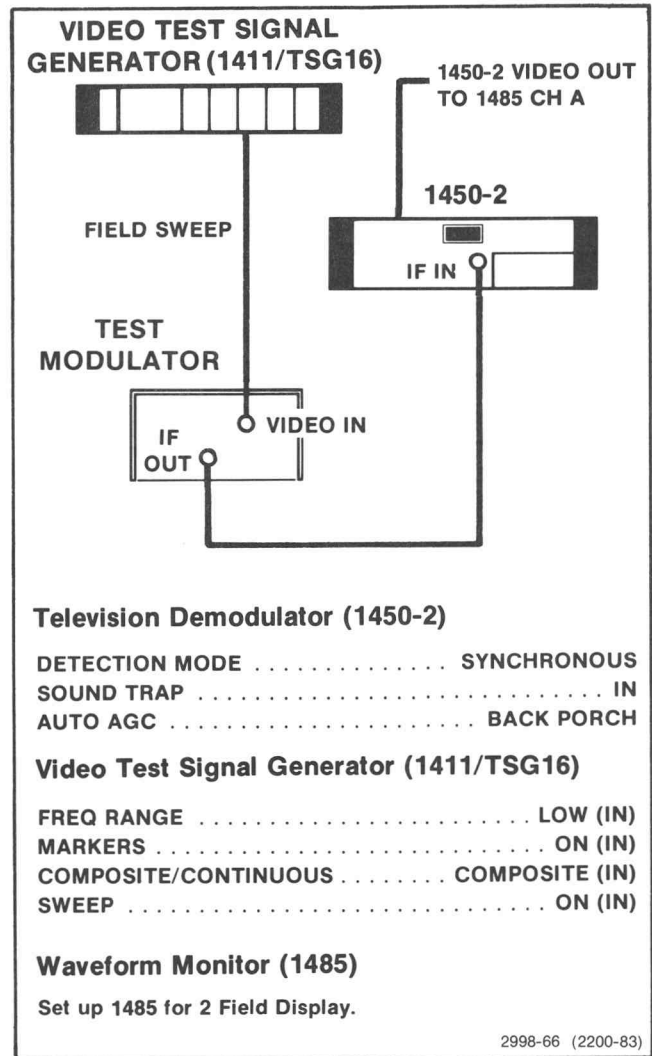

Fig. 4-52. Test Equipment Setup for Adjusting Wide Band and Narrow Band Frequencies.
- (a) Connect the test equipment as shown in Fig. 4-52.